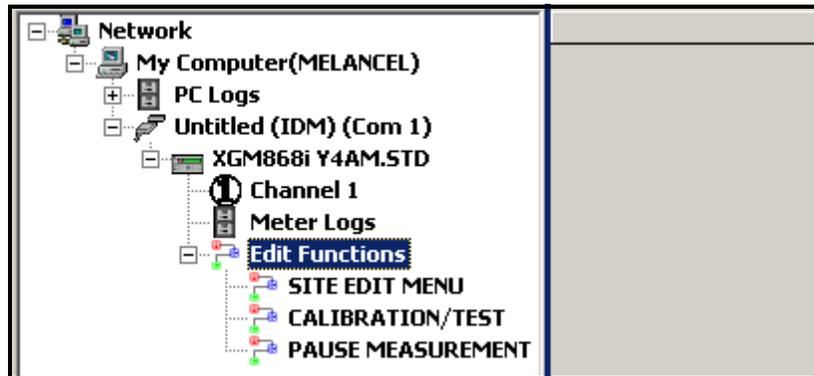

Figure C-9: Menus in the *Edit Functions* Option
2. Expand the *Edit Functions* option. The window now appears similar to that shown in Figure C-9 on the next page.